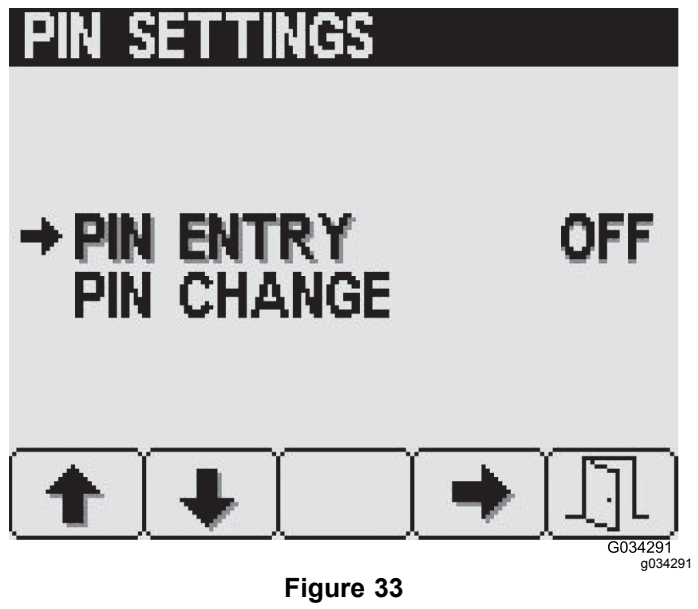

Figure 33
3. From the PIN Settings screen, press button 4 to select PIN Entry and to turn the PIN option ON or OFF (Figure 33).